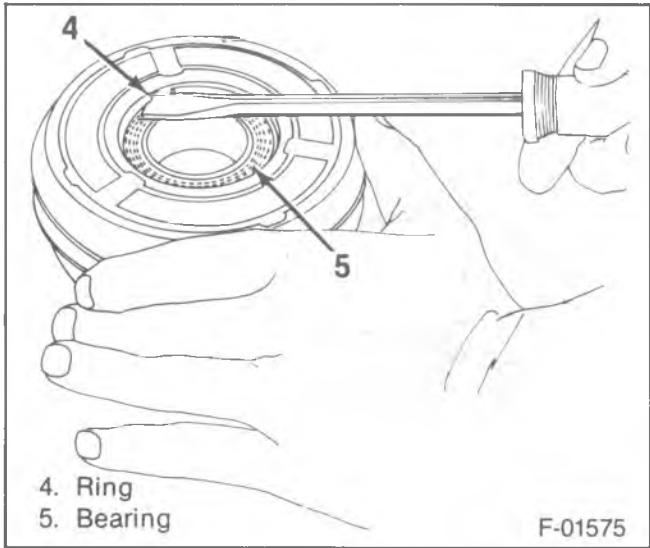

Figure 8—Removing the Pulley and Bearing Retainer Ring
4. Bearing (5) from the pulley (6) (figure 8).
- Remove the retaining ring (3).